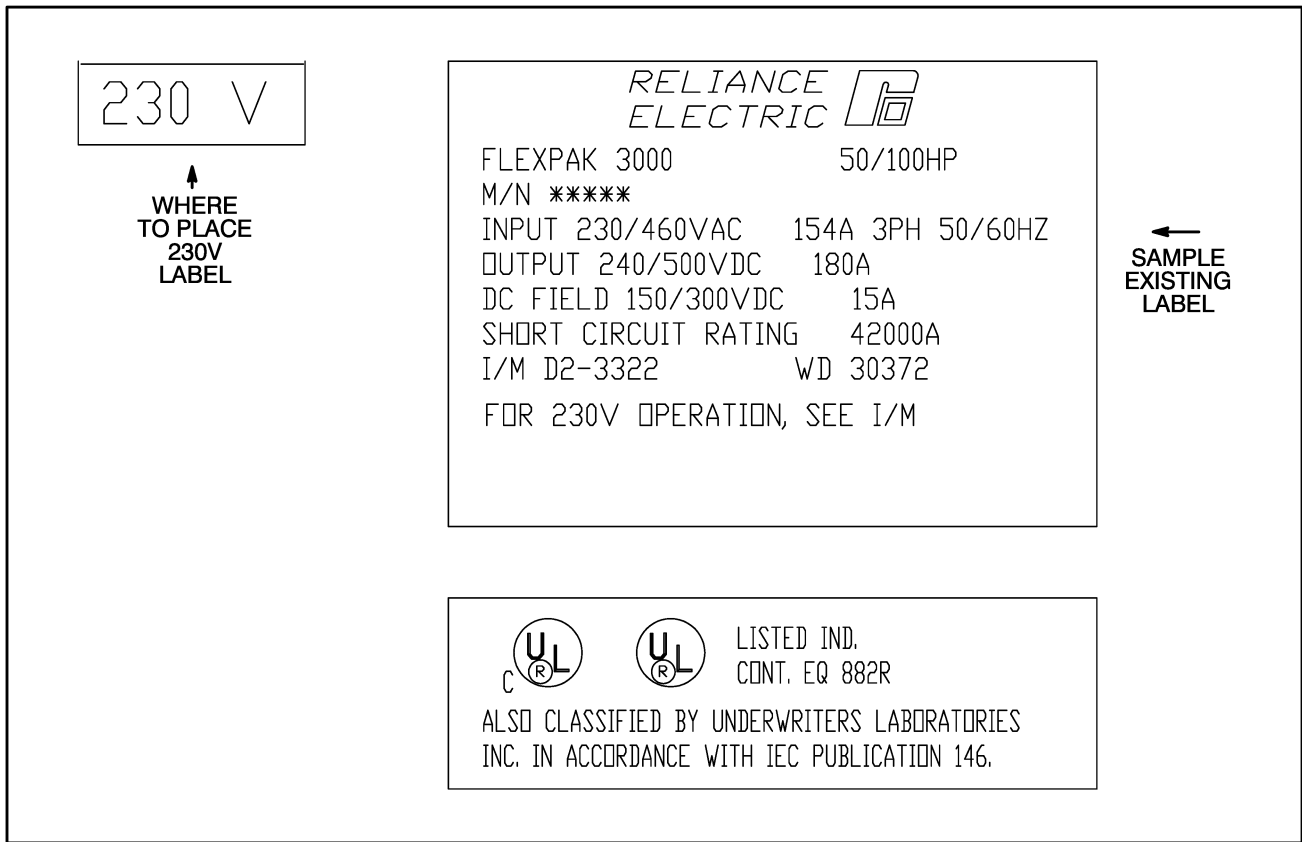

Figure 3- Nameplate and 230V Label Locations
Step 6. Place the "230 VAC" label to the left of the drive nameplate as shown in Figure 3. The nameplate is located either at the top of the regulator carrier or on the left side panel of the drive chassis.